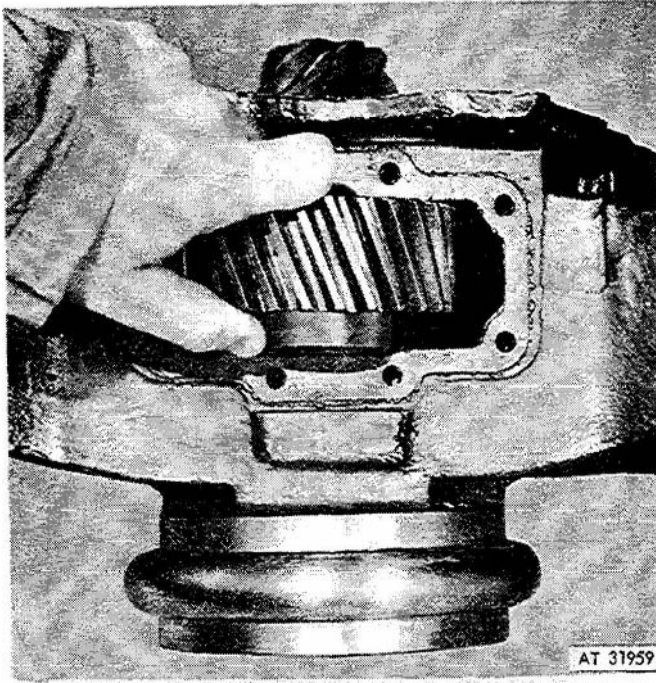
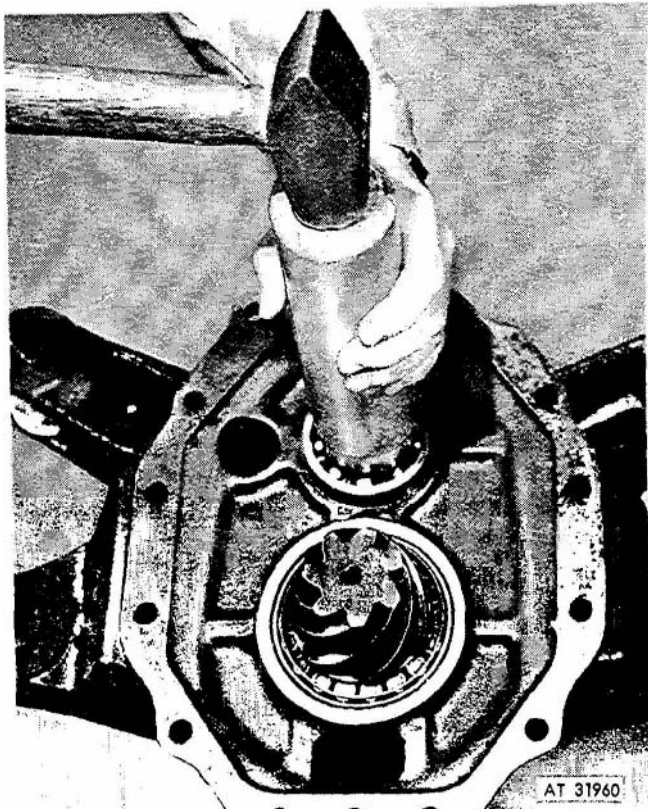

Figure 3-163. Installing gear in input housing.
Figure 3-164. Installing assembled shaft in input housing.
(26) Pack seal (14, fig 3-133) with grease (GAA) and install seal in housing (11). Install bearing (6) in housing (11). Position gear (5) into housing (fig 3-163) and install assembled shaft (4, fig 3-133) as shown in figure 3-164. Install retaining ring (1, fig 3-133).